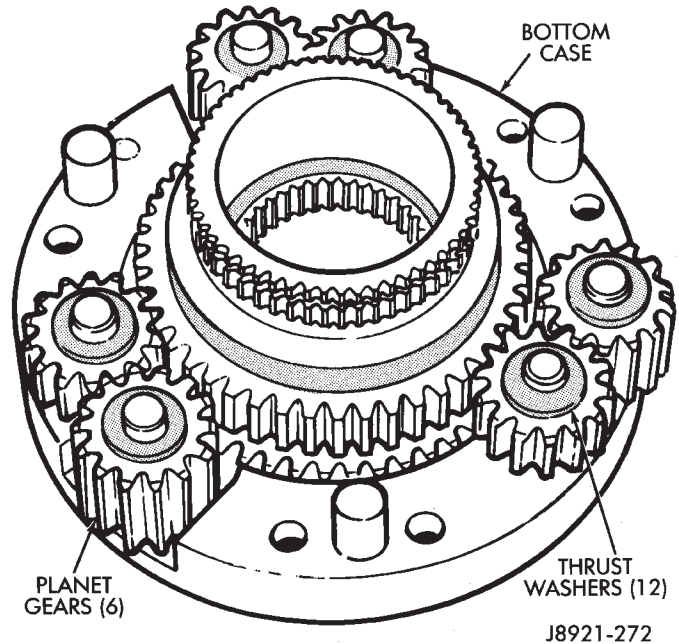

Fig. 45 Planet Gears And Thrust Washer Removal
- (5) Remove thrust washers and planet gears from case pins (Fig. 45).